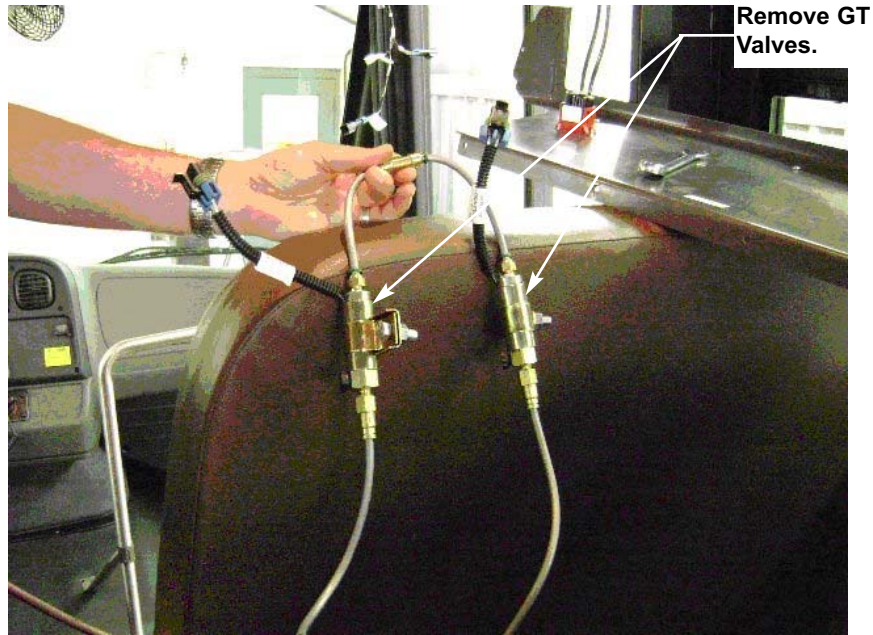

Figure 6
- 2. **If your unit is equipped with the GT Valve, perform the remainder of this bulletin. (Figure 6) These changes affect units with start date of 4/18/06 through 5/14/07.**